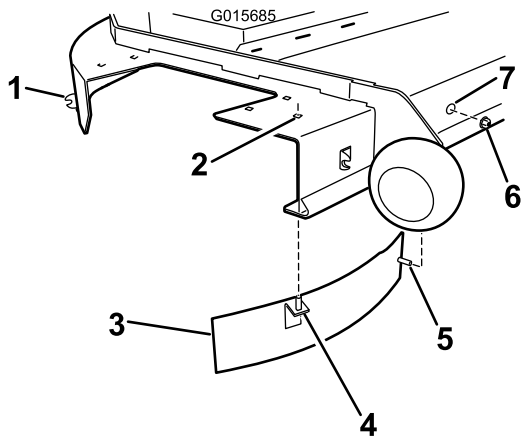

Figure 6
4. Install a baffle to the mower deck (Figure 6). **For 48 inch decks, use a straight baffle. For 54 inch decks, use a curved baffle.** Align the vertical post on the baffle inside the mower deck. Rotate the baffle until the horizontal post aligns with the hole in the front wall of the mower deck. Secure it to the front wall of the mower deck using a lock nut.